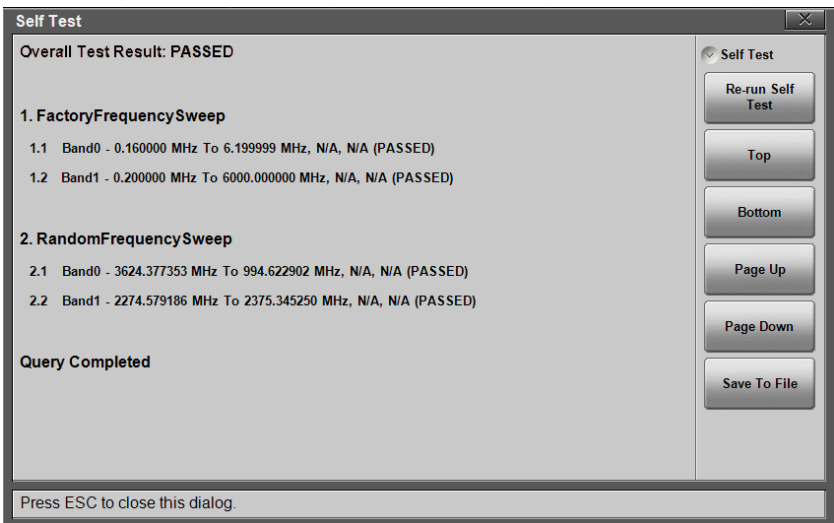

Figure 7-4. Self Test Window
1. Press the **System** (8) key on the interface screen keypad.
2. Press the **Diagnostics** submenu, then **Self Test**. The test will start and results are displayed in the Self Test window (see Figure 7-4).
Diagnostics	Self Test: Press this submenu key to initiate diagnostic tests on the instrument. Test results are listed in the Self Test window, illustrated in Figure 7-4 on page 7-5 . Press Esc to close the window.